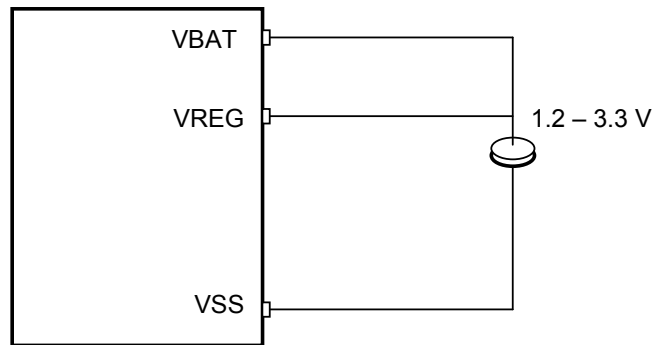

Figure 2-5. Supply configuration for ROM circuit operation by-passing the internal regulator.
3. With the internal regulator short circuited (i.e. by connecting VREG to VBAT, see Figure 2-5). In this case, the current consumption will increase with VBAT.